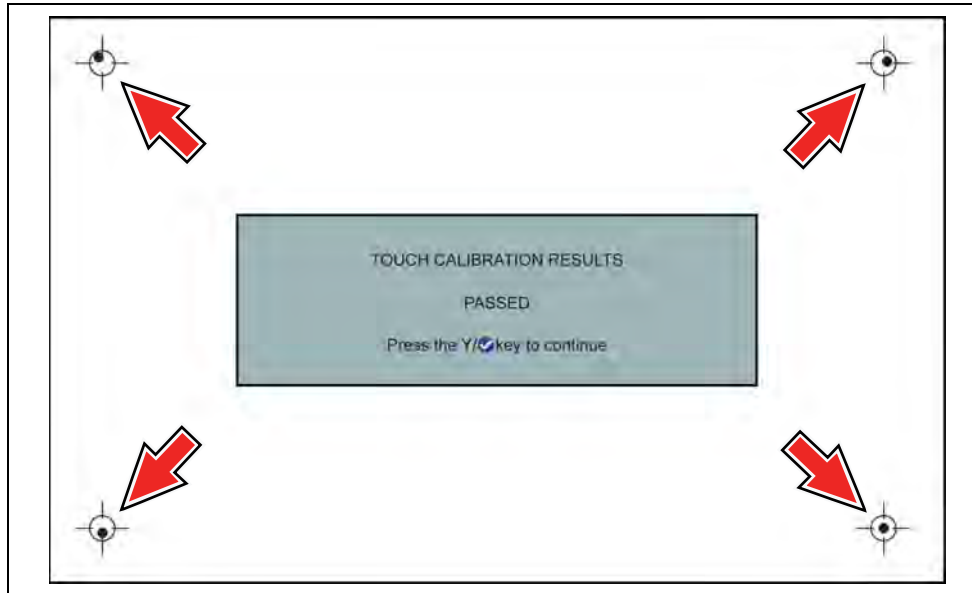

Figure 12-7 Touch screen calibration - Passed
- If the calibration is successful, the “Touch Calibration Results - Passed” screen is displayed (Figure 12-7). Press the **Y** button to complete the process and return to the Display menu.
- The results screen (Figure 12-7) shows the entered calibration of each indicator. Ideal calibration would be to select each indicator exactly in the center, however selection inside the displayed circle is acceptable. If selecting the center is difficult using your finger, use a touch screen stylus (not included).